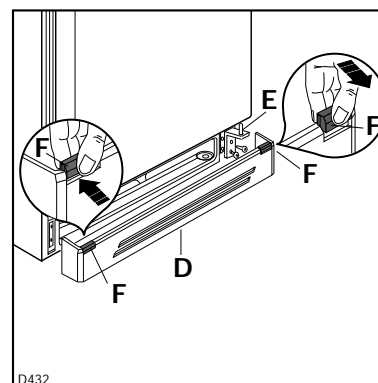

Fig. 4
Remove the ventilation grille (D-Fig. 4).
Unscrew the bottom hinge (E-Fig. 4).
Screw down the bottom hinge (E-Fig. 4) on the opposite side, using the screws previously removed.
Detach the plug (F-Fig. 4) from the ventilation grille (D). To do this, press it in the direction of the arrow.